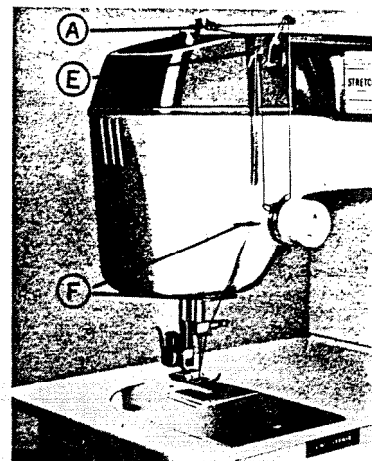

Fig. 11-A
- (2) Place spool of thread on spool pin.
- (3) Lead thread through rear and front arm thread guides "A"
- (4) Down and between tension discs "B" from right to left and up and over hook "D" (Fig. 11-B)
- (5) Lead thread up and through take-up eye from right to left.
- (6) Down and between thread guide "F". (Fig. 11-A)